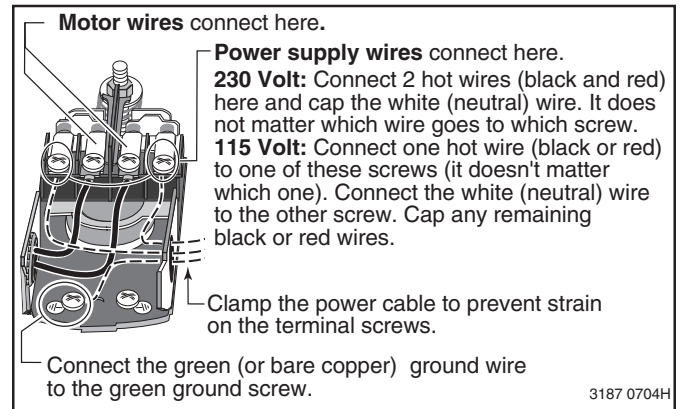

Figure 6 – Pressure Switch Wiring
1. Connect the ground wire first as shown in Figure 6. The ground wire must be a solid copper wire at least as large as the power supply wires.
4. Connect the power supply wires to the pressure switch as shown in Figure 6.